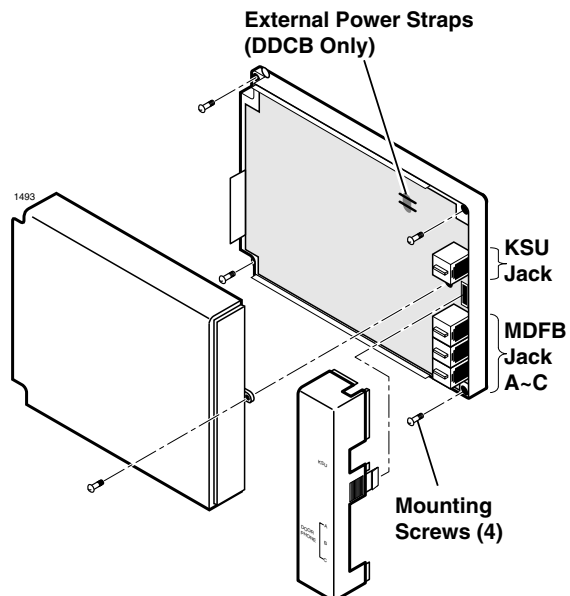

Figure 8-14 Door Phone (DDCB) Installation
1. Locate the two mounting holes on the right-hand side on the DDCB (see Figure 8-14).